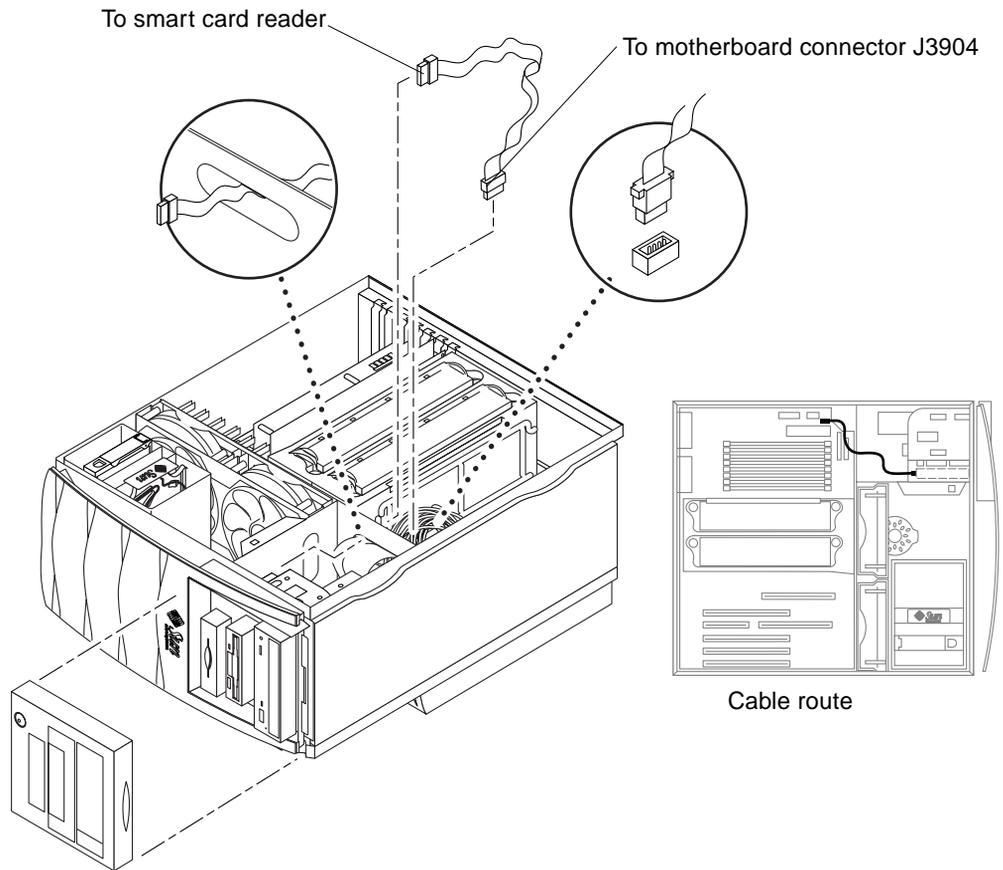

FIGURE 6-9 Removing and Replacing the Smart Card Reader Cable Assembly
2. **Disconnect the smart card reader cable assembly from the smart card reader (FIGURE 6-9).**
1. Position the smart card reader cable assembly in the chassis (FIGURE 6-9).